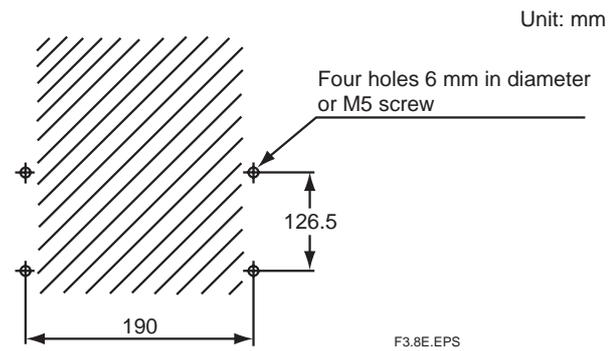

Figure 3.4 Mounting holes
(1) Drill mounting holes through the wall as shown in Figure 3.4.